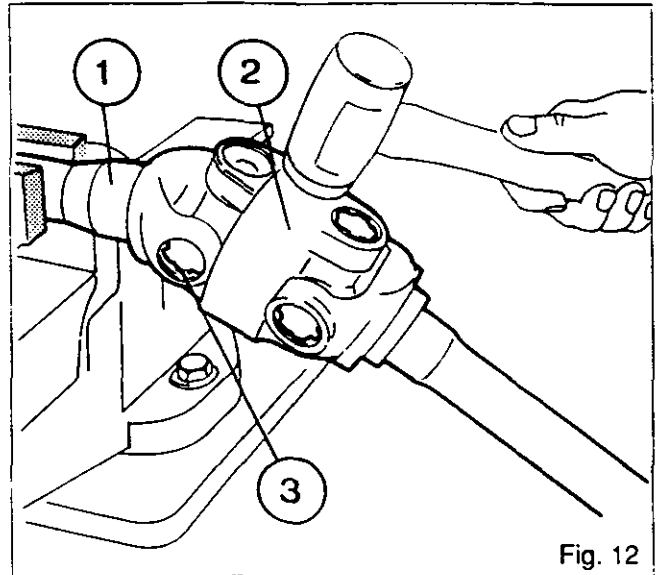

Fig. 12
**Front axle - Final drive units****Disassembly of universal joint (Fig. 12)**
82. Remove the four circlips (3) of each extremity of the joint.
83. Use a plastic mallet to drive the central yoke (2) downwards until the bearing sleeve emerges.